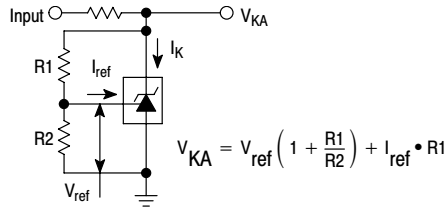

Figure 2. Test Circuit for  $V_{KA} > V_{ref}$
- The dynamic impedance ZKA is defined as: |ZKA| =  $\frac{\Delta V_{KA}}{\Delta I_K}$ . When the device is programmed with two external resistors, R1 and R2, (refer to Figure 2) the total dynamic impedance of the circuit is defined as: |ZKA'| ≈ |ZKA| (1 +  $\frac{R1}{R2}$ )
6. The dynamic impedance ZKA is defined as  $|Z_{KA}| = \frac{\Delta V_{KA}}{\Delta I_K}$  When the device is programmed with two external resistors, R1 and R2, (refer to Figure 2) the total dynamic impedance of the circuit is defined as:  $|Z_{KA}'| \approx |Z_{KA}| \left( 1 + \frac{R1}{R2} \right)$